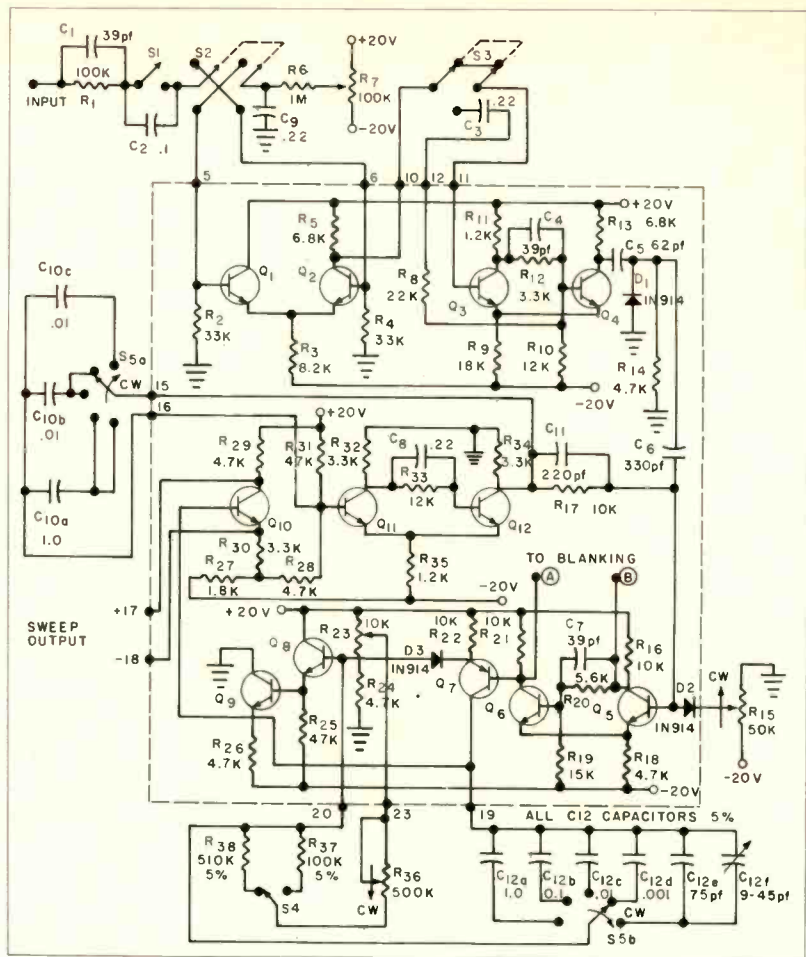

Fig. 3— Schematic of trigger-sweep circuits used in EICO scope.
Operation of these circuits (see Fig. 3, 4 and 6) is typical for lab or professional-type scope sweeps. The first two stages condition the signal and the second stage output is a squarewave with a repetition rate equal to that of the input signal. The squarewave is differentiated and clamped so that fast positive spikes drive the start/stop generator — a Schmitt trigger circuit.
(1) Remove the CRT from the scope chassis. (2) Remove the sweep selector switch and capacitors connected to it. (3) Remove EXT CAP jack and its wire. (4) Remove SAWTOOTH jack and its wire. (5) Remove tubes V5 (12AU7) and V6 (6J6) located on right front of the chassis. (6) Remove the 10K HORIZONTAL GAIN control and substitute a 50K control. (7) Remove the SWEEP VERNIER pot, EICO R54, and replace with R36, the 500K pot shown in Fig. 3.
Wire circuit boards, using schematics shown in Fig. 3, 4 and 6. Parts inside dotted line are on boards and parts outside are mount-